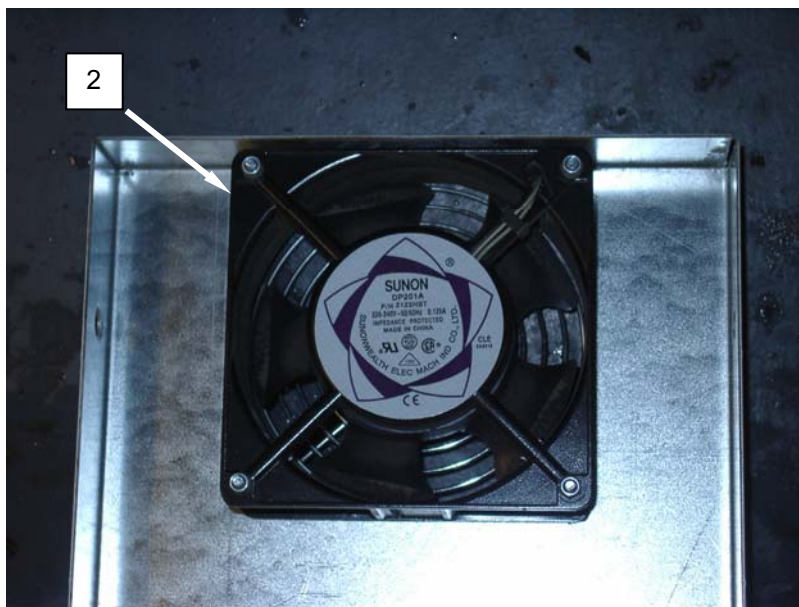

Figure 5. Replace the Washer Variable Frequency Drive Cooling Fan.
2. Remove screws retaining inverter box cover (**Figure 5, Item 1**) and remove cover.
3. Tag and disconnect wiring from fan (**Figure 5, Item 2**).
4. Remove bolts, washers and nuts retaining fan (**Figure 5, Item 2**) to cover (**Figure 5, Item 1**), and remove fan.
5. Install replacement fan (**Figure 5, Item 2**), and retain with bolts, washers, and nuts.
6. Connect wiring to fan (**Figure 5, Item 2**).
7. Install inverter box cover (**Figure 5, Item 1**), and retain with screws.